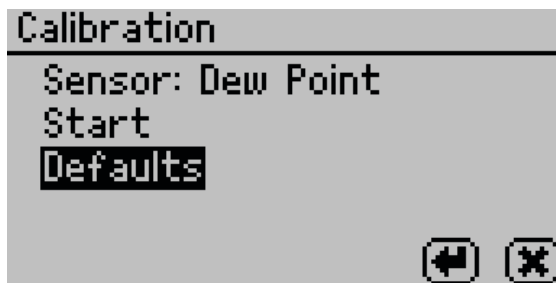

Figure 70 Calibration screen with Defaults selected
3. Select Defaults to access the Restore Factory Defaults routine (Figure 70).